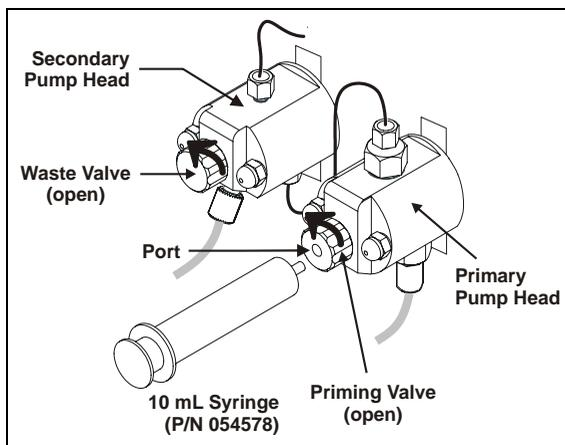

Figure 5-27. Priming the Pump Heads with IPA
1. Connect a 10-mL syringe (P/N 054578) filled with isopropyl alcohol (IPA) to the port in the primary pump head (see Figure 5-27).
2. Open the waste valve on the secondary pump head (see Figure 5-27) by turning the knob one-quarter to one-half turn counterclockwise.